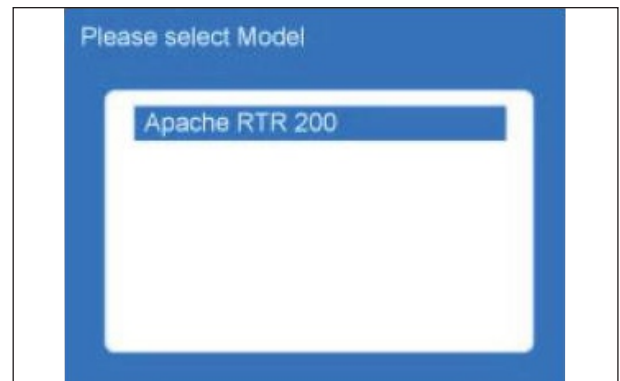

Fig. 7.4
- After entering Diagnosis(F1) mode, the vehicle to be diagnosed is selected. (Fig. 7.4)